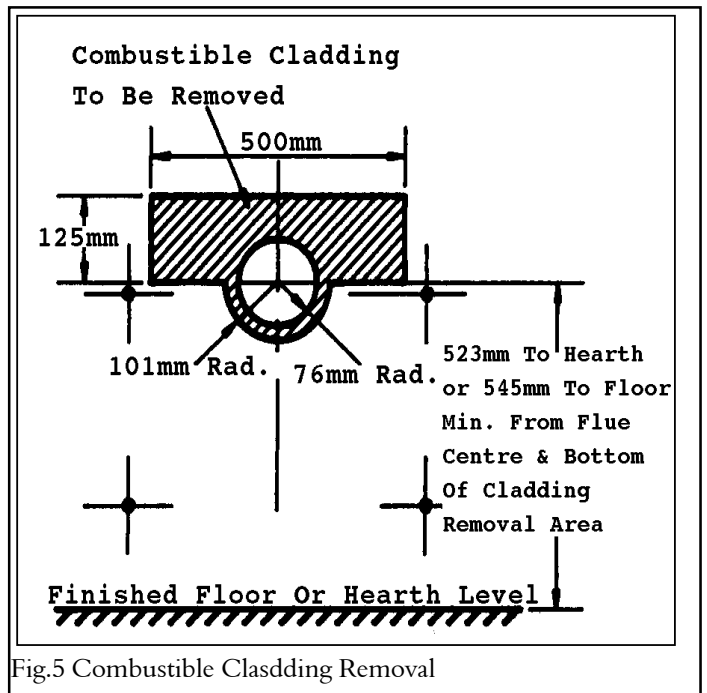

Fig.5 Combustible Cladding Removal
5.10 Remove any combustible wall cladding material from the area shown in figure 5.